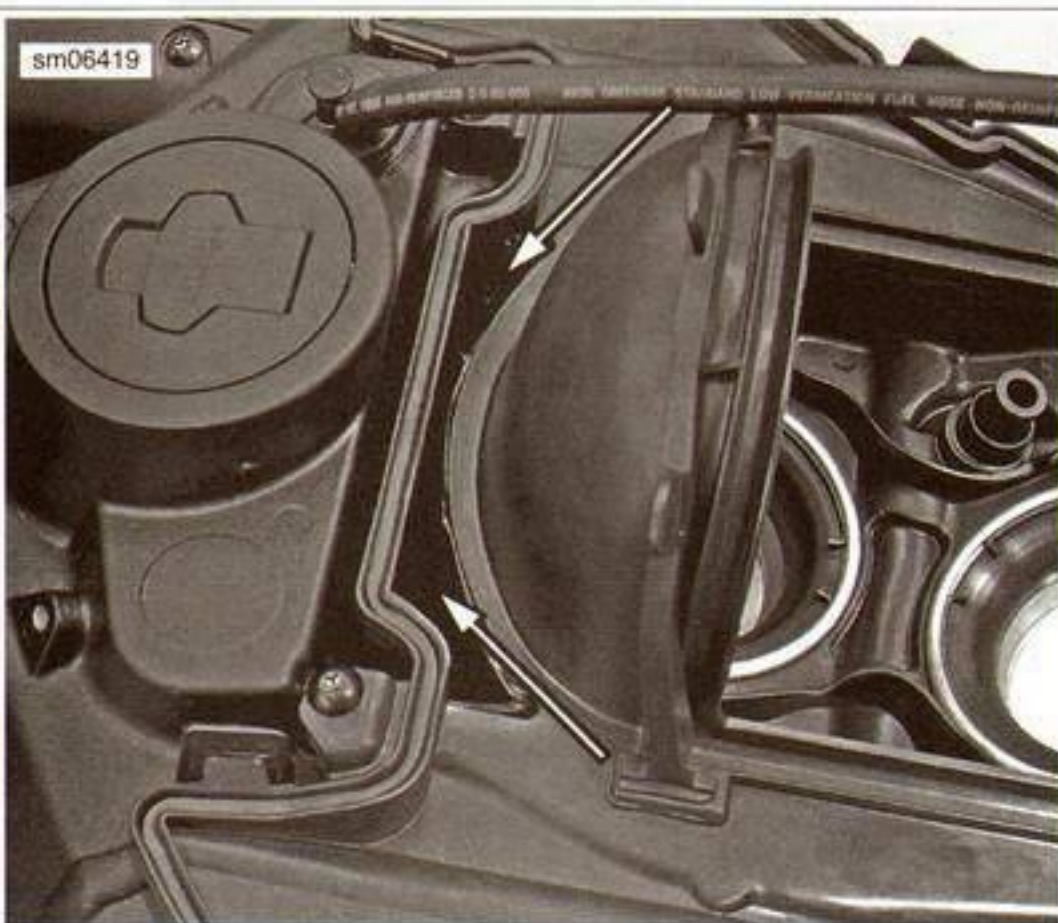

Figure 1-10. Opening from Intake Snorkel
3. See Figure 1-10. Clean the opening from the intake snorkel of any debris.